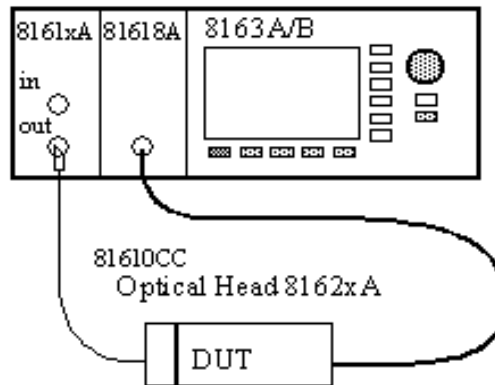

Figure 11 Return Loss Reference Setup
- 2 Connect the equipment as shown in Figure 11.